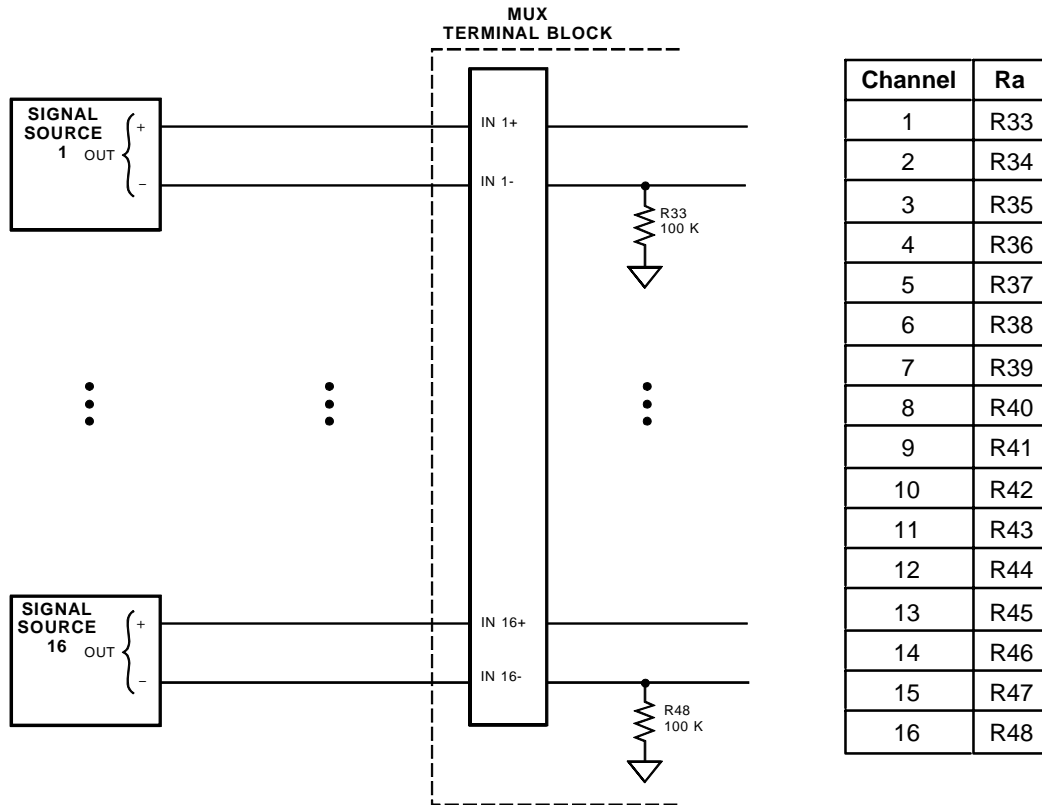
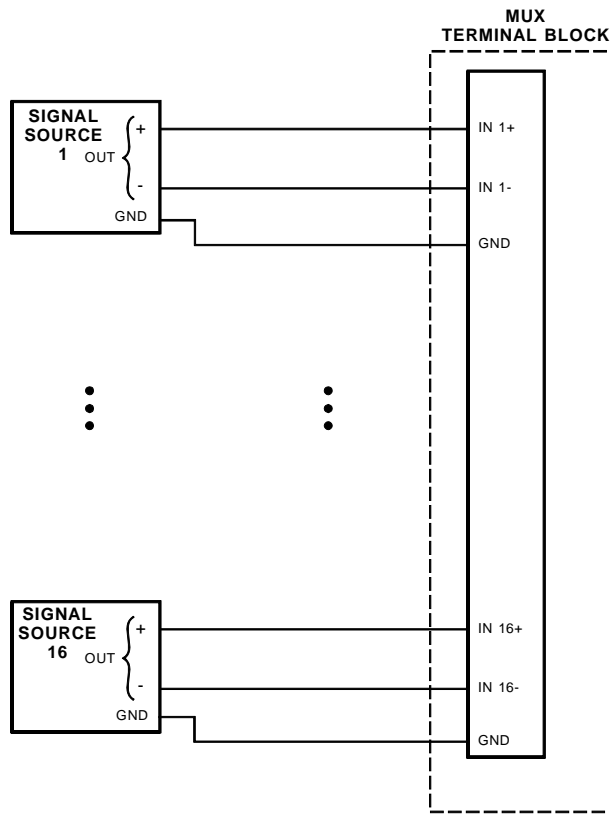

Fig. 2-4 — Differential Input Connections Without Ground Reference
Fig. 2-5 — Differential Input Connections With Ground Reference
In the differential mode, up to 16 signal sources can be connected to the TMX32. When operating in the differential mode, twisted pair cable is recommended to reduce the effects of magnetic coupling at the inputs. Your signal source may or may not have a separate ground reference. Figure 2-4 shows how to connect the input if you do not have a ground reference from the signal source, and Figure 2-5 shows you how to make the connections with a ground reference from the signal source.
- Refer to Figure 2-4 and install a 100 kilohm resistor in the appropriate resistor location on the board, as shown in the table below. Next, connect the high side of the analog input to the selected analog input channel, IN1+ through IN16+, and connect the low side of the input to the corresponding IN- pin, as shown in Figure 2-4.
- Refer to Figure 2-5 and connect the high side of the analog input to the selected analog input channel, IN1+ through IN16+, and connect the low side of the input to the corresponding IN- pin. Then, connect the ground from the signal source to one of the GND terminals. When a signal source has a reference ground, no resistors are necessary.